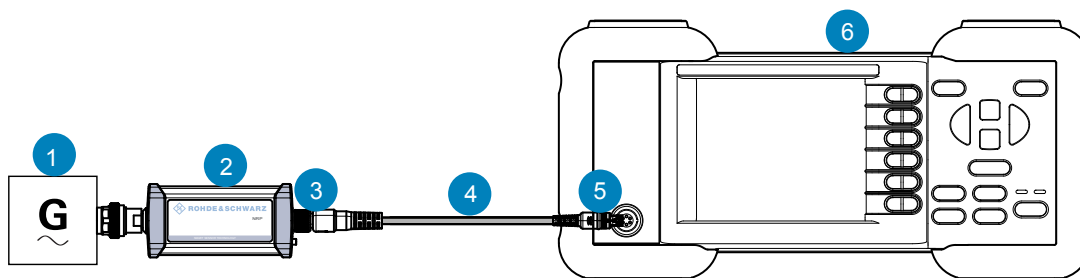

Figure 9-1: Configuration with an R&S NRP2 base unit
1. Connect the cables as shown in Figure 9-1: